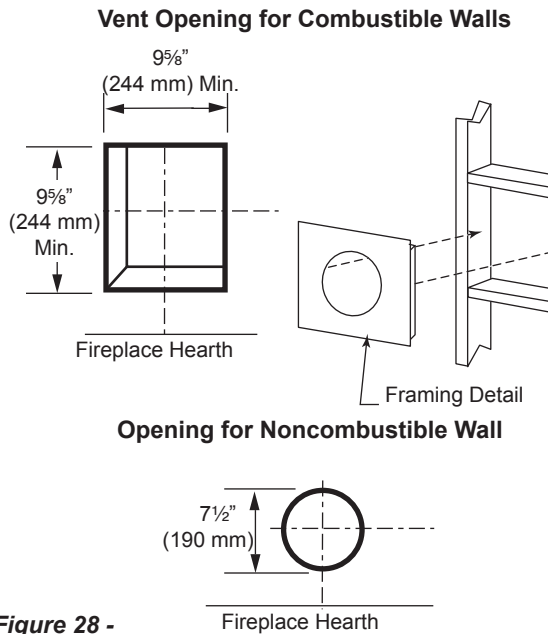

Figure 28 - Locate vent opening on wall. FP2293
Locate vent opening on the wall. It may be necessary to first position the fireplace and measure to obtain hole location. Depending on whether the wall is combustible or noncombustible, cut opening to size. *Figure 28* (For combustible walls first frame in opening.)
Combustible Walls: Cut a 9 5/8" H x 9 5/8" W (244 x 244 mm) hole through the exterior wall and frame as shown. *Figure 28*
1. Establish vent hole through the wall. *Page 19, Figure 28*